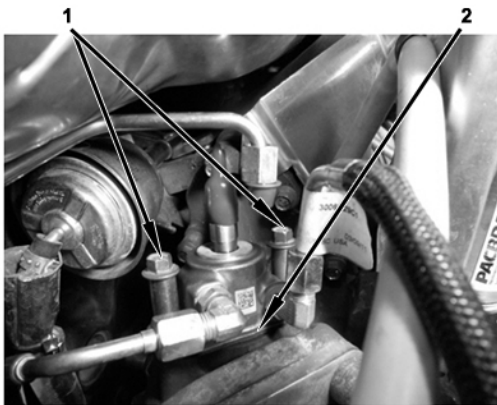

Figure 34 Thermal Management Valve Housing
11. Remove HCl cap. Install HCl on thermal management valve housing (1) with two M8 x 45 bolts (2) and torque to 18 lb-ft (24 N•m) (Figure 34).